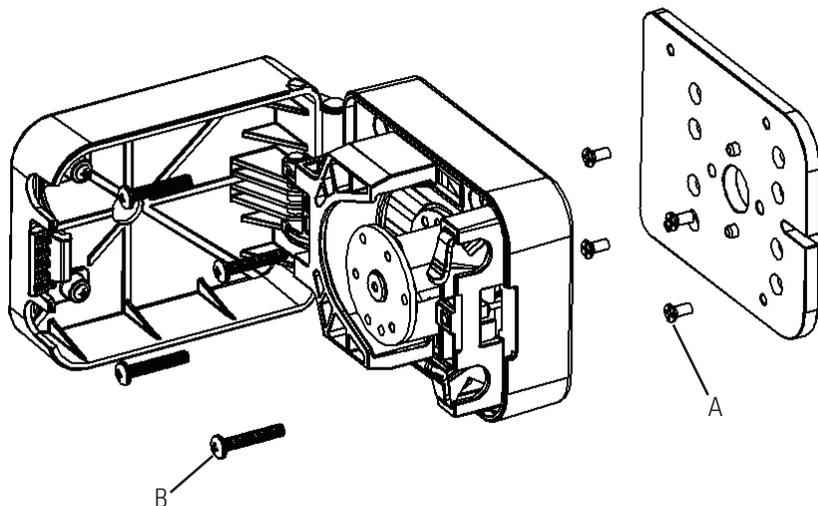

Figure 2-1. Mounting Holes
1. Check that pump drive is turned OFF. Install mounting plate using four (4) #8-32 PFHS (furnished). (Labeled “A” in Figure 2-1.)
4. Secure pump to pump drive with the four (4) #10-32 PPHS mounting screws (furnished). (Labeled “B” in Figure 2-1.)